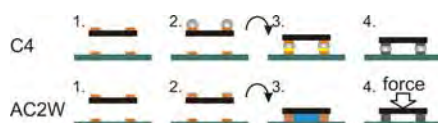

Figure 6. C4 and AC2W (for Cu-Sn-Cu eutectic bond) process flow comparison
The most popular process for making collapsible interconnections is the Controlled Collapse Chip Connection (C4) process⁸. It mainly consists of four steps (Figure 6, top): (1) application of under-bump metallization (UBM), (2) application of solder with ball forming reflow, (3) fluxing and placing the chip on the substrate, and (4) assembly reflow. The process flow of AC2W is quite similar to C4 (Figure 6, bottom): (1) application of under-bump metallization, (2) application of solder without ball forming reflow, (3)
These are very difficult restrictions which demand very special materials for this application. After applying the preapplied underfill, the die can be bonded to the target substrate by C4, flip-chip bonder only, or by the AC2W process. For the C4 and AC2W process, a placing or prebonding of the die to the target substrate is necessary (Figure 6, step 3). For making the permanent metal connection the prebonded die stack has to be heated to the bonding temperature. This temperature rise results in a thermal expansion or a viscosity reduction of the underfill material. Decreasing the viscosity of the underfill can lead to a shape change caused by the surface tension. These effects can lead to a lifting up or shifting of the die in relation to the target substrate. Again, this can cause open contacts or misalignment. Therefore, to avoid these effects, preapplied underfill can only be used for a sufficiently high manufacturing yield with the application of force while permanent bonding. The preapplied underfill can either be fully cured in the permanent bonder by tempering for a longer period of time or at an elevated temperature. It can also be final cured in an external process.